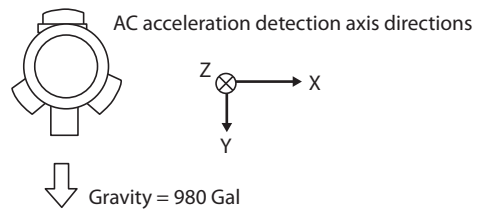

Figure 2A: Y-axis FSG measurement ( $\alpha Y_{-980}$ )
(1) Position this unit as shown in figure 2A.